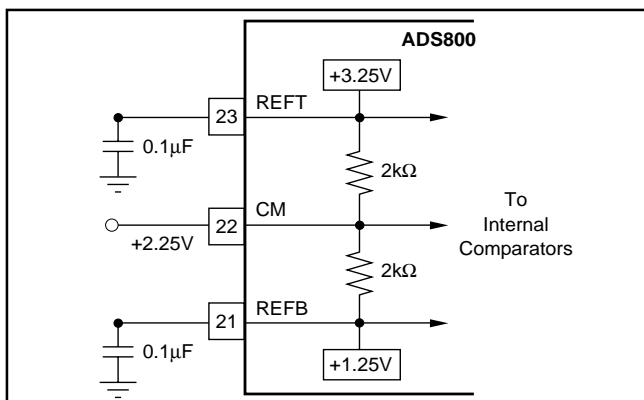

FIGURE 3. Internal Reference Structure.
The analog input of the ADS800 can be configured in various ways and driven with different circuits, depending on the nature of the signal and the level of performance desired. The ADS800 has an internal reference that sets the full scale input range of the A/D. The differential input range has each input centered around the common-mode of +2.25V, with each of the two inputs having a full scale range of +1.25V to +3.25V. Since each input is 2Vp-p and 180° out of phase with the other, a 4V differential input signal to the quantizer results. As shown in Figure 3, the positive full scale reference (REFT) and the negative full scale (REFB) are brought out for external bypassing. In addition, the common-mode voltage (CM) may be used as a reference to provide the appropriate offset for the driving circuitry. However, care must be taken not to appreciably load this reference node. For more information regarding external references, single-ended input, and ADS800 drive circuits, refer to the applications section.